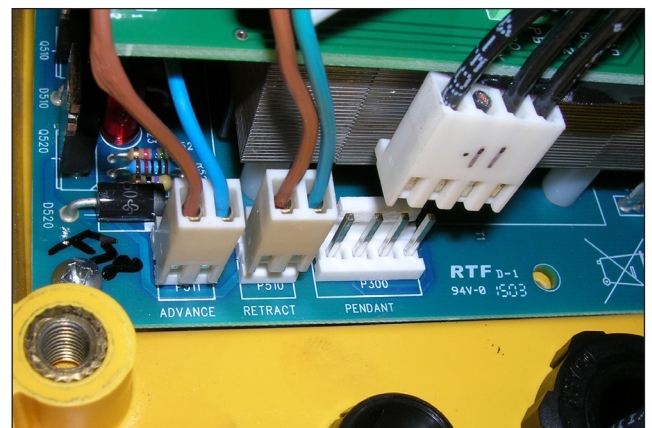

Figure 6, 4-Pin Pendant Connector
4. Disconnect the 4-pin connector from the “PENDANT” terminal on the pump control board. See Figure 6.
9. Connect the 4-pin connector from the new pendant cable to the “PENDANT” terminal on the pump control board. See Figure 6.